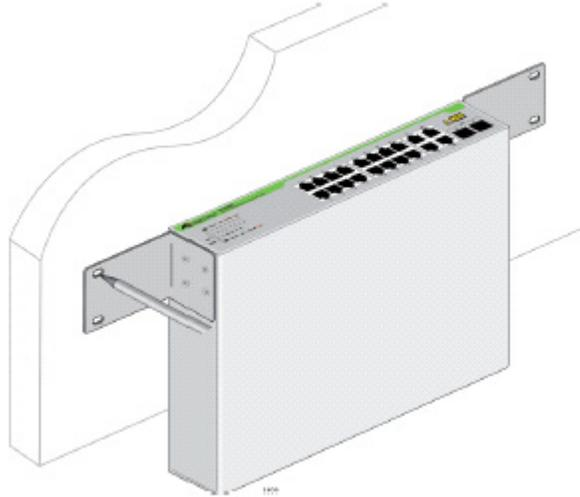

Figure 29. Marking the Screw Hole Locations
6. Have another person hold the switch with the brackets at the wall location where the switch is to be installed, while you use a pencil to mark the wall with the locations of the four holes in the brackets. See Figure 29.